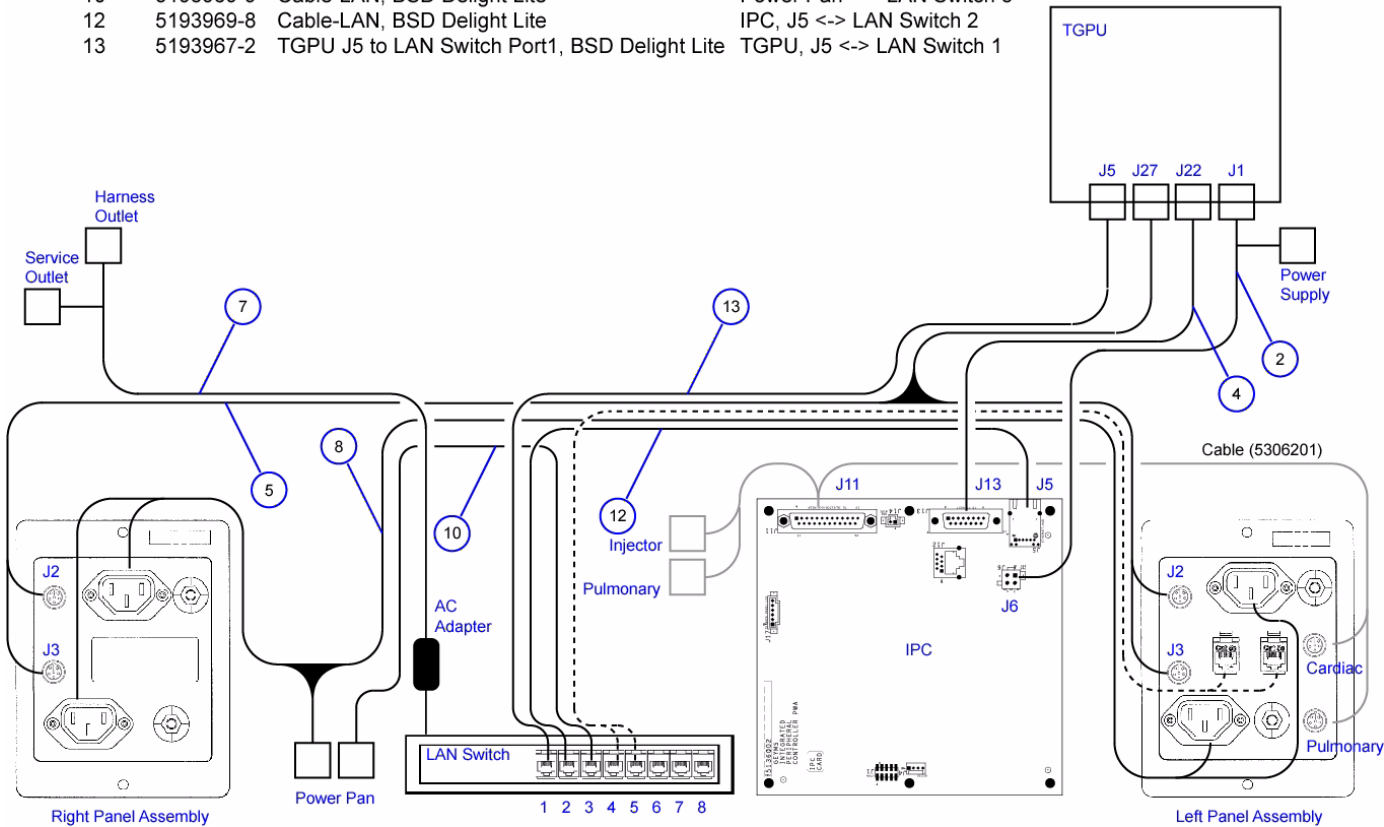

Figure 1-11 Cable Connections
- 2.) Connect all cable connectors of cable harness as shown in Figure 1-11.